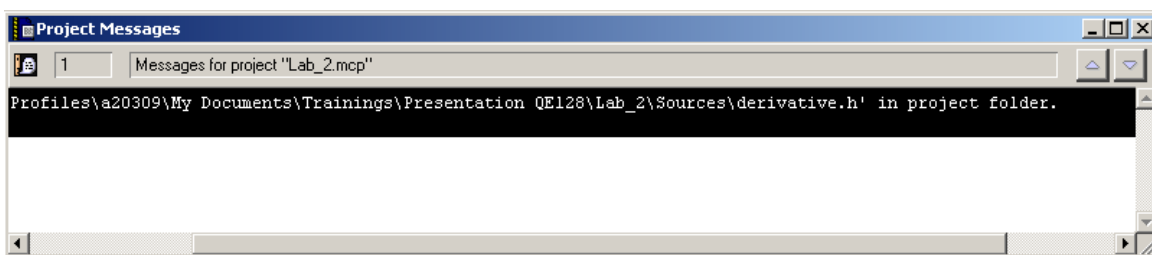

Figure 10. Project Messages
6. CodeWarrior automatically changes the derivative.h file and shows the message shown in Figure 10: